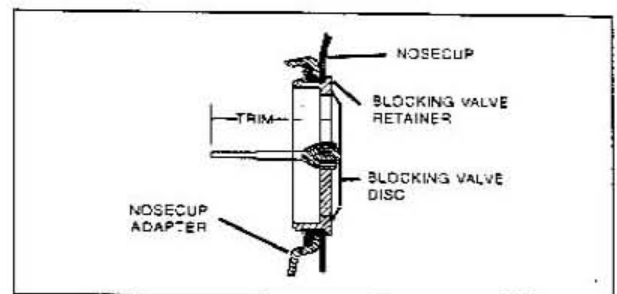
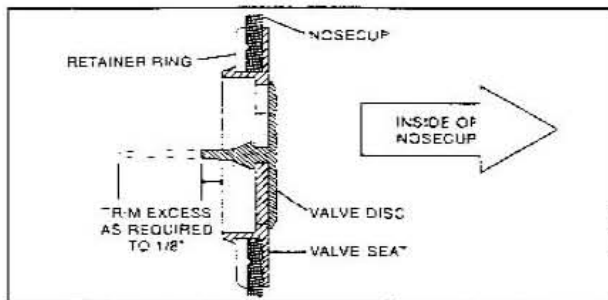

Figure 4 - Blocking Valve Assembly
Figure 5 - Inhalation Check Valve
3. If blocking valve disc replacement is required, grip blocking valve disc with fingers and pull free of valve seat (see Figure 4)
4. To install a new blocking valve disc, moisten stem of valve with a drop of clean water. Slip stem of valve disc into center hole of valve seat as shown in Figure 4. Gently pull stem to seat valve. When valve
is properly installed, the rim portion of the valve will lay flat against the face of blocking valve retaining ring. The reduced diameter of the shaft (closest to valve disc) will be captured in center hole of valve seat. Trim excess from stem, as required (see Figure 4).
7. The two inhalation check valves installed in the valve seats of the nose cup assembly are not normally removed during maintenance. However, if valve replacement is required, grip disc portion of check valve with fingers and pull free of valve seat (see Figure 5).
8. To install a new check valve, moisten stem of valve with a drop of clean water. From inside of nose cup, slip stem of valve into center hole of valve seat as shown in Figure 4. From outside of nose cup, gently pull stem to seat check valve. When check valve is properly installed, the disc position of the valve will lay flat against the spokes of the valve seat, and the reduced diameter of the shaft (closest to valve disc) will be captured in center hole of valve seat. Trim excess stem, as required (see Figure 5).
- a) From the inside (face side) of the nose cup, place the valve seat in the mounting hole as in Figure 5.
- b) From the outside of the nose cup, center the valve seat retaining ring over the valve seat and snap together by applying pressure with the thumb and forefinger of both hands, working your way around the valve until all the segments of the valve retaining ring are engaged as shown in Figure 5.
- c) Reinstall rubber valve disc by placing center tab of valve disc into the center hole of the valve seat from inside (face side) of the nose cup and gently pulling into position as shown in Figure 5. Trim excess from valve stem, as required.